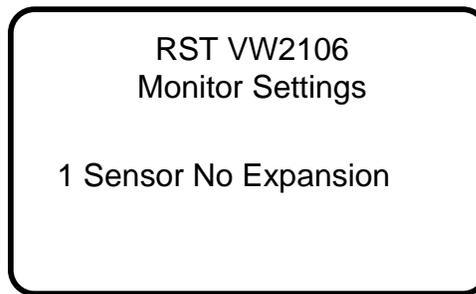

FIGURE 4-6 ONE SENSOR CONNECTED
3. Select the number of sensors connected and press **Enter**. Most devices will be set to connect to one sensor per terminal strip (Figure 4-6). The expansion connector is automatically enabled when more than one sensor is selected.